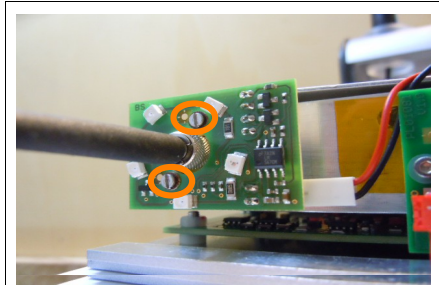

Figure 64:
- remove the LED board, for that you must take out the two screws Figure 64: